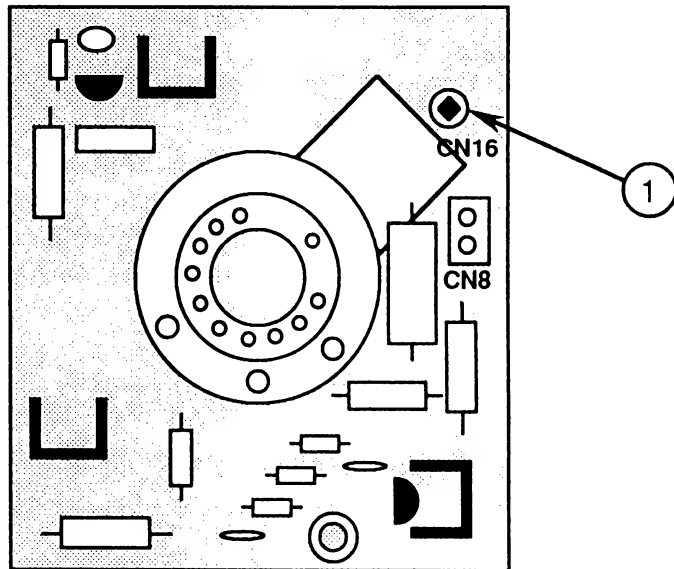

FIGURE 26
7. Reconnect the black, single-wire connector to CN16 on the CRT board (Figure 26, #1). This connector is attached to the green CRT ground strap.